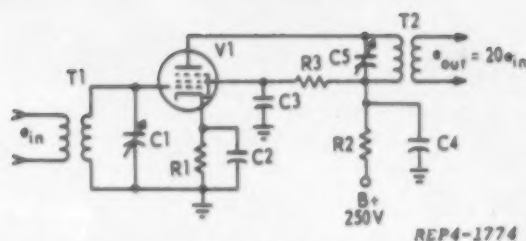

Figure 1
Use figure 1 for questions 5 through 12.
9. The decoupling components in figure 1 are _____ and _____.